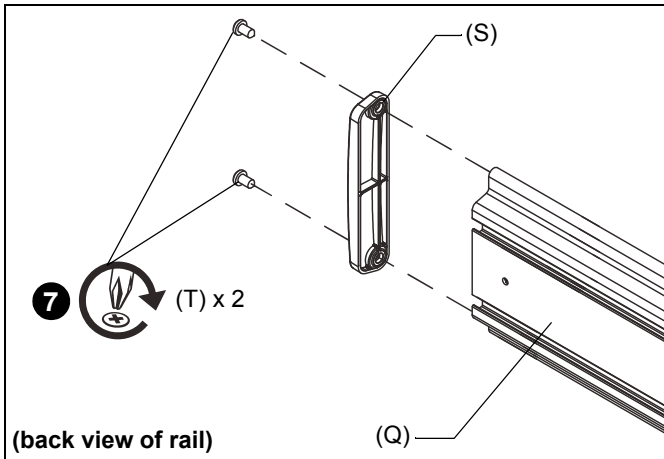

Figure 14
- Attach one end cap (S) with two 1/4-20 x 1/2" Phillips head screws (T) to end of mounting rail (Q). (See Figure 14)